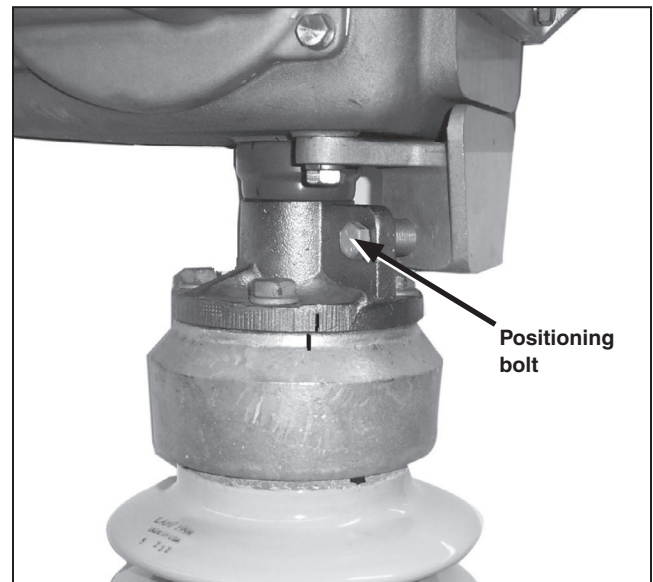

Figure 6. Positioning bolt after installation.
- (c) Insert the positioning bolt through the tab and stop bushing and secure it with the flat washer and nut. Torque the nut tightly so the two mating surfaces are drawn together. See Figure 6.